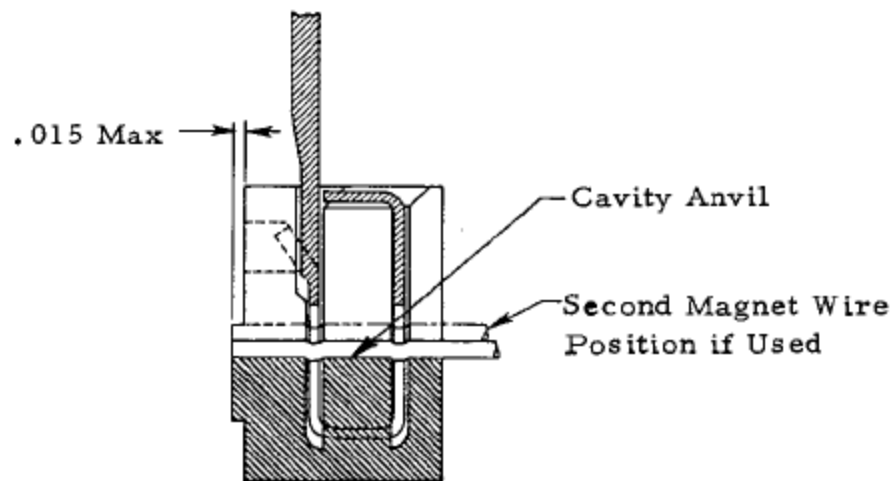

Figure 7
1. Magnet wire shall contact top of cavity anvil as indicated in Figure 7 when terminals are inserted into cavity design option 1 (see Figure 2).